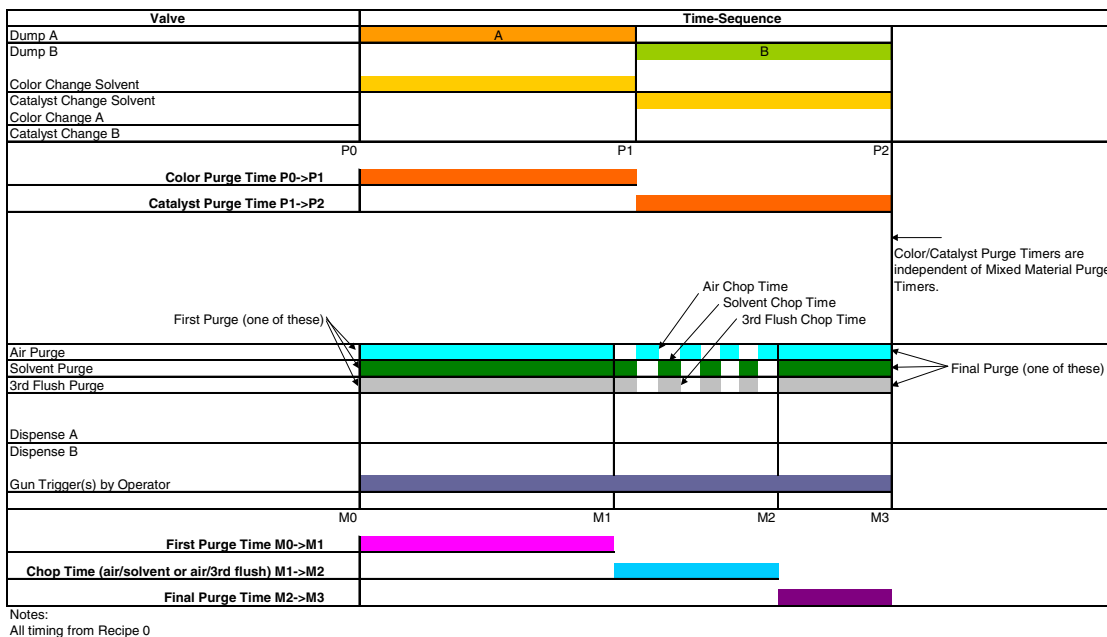
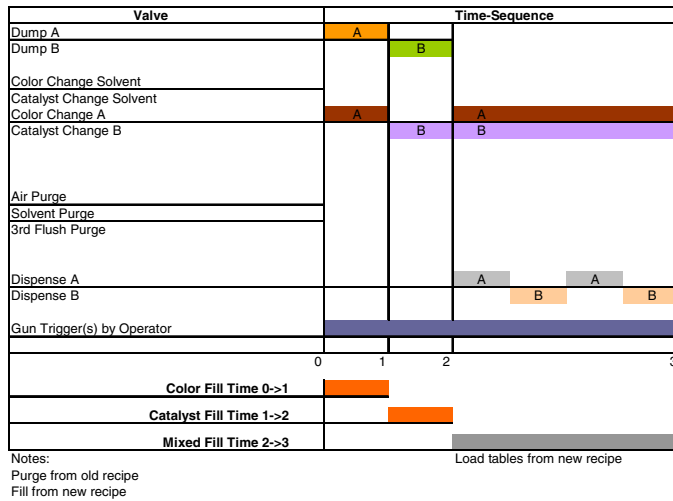

FIG. 118: Color Change Chart 10
FIG. 119: Color Change Chart 11
| X | 0 | Yes | Yes | Yes | No | 0, 1, or 2 | FIG. 118* |
| X | 0 | Yes | No | Yes | No | 0, 1, or 2 | FIG. 118* |
| X | 0 | No | Yes | Yes | No | 0, 1, or 2 | FIG. 118* |
| 0 or 61 | X | Yes | Yes | Yes | No | 0, 1, or 2 | FIG. 119* |
| 0 or 61 | X | Yes | No | Yes | No | 0, 1, or 2 | FIG. 119* |
| 0 or 61 | X | No | Yes | Yes | No | 0, 1, or 2 | FIG. 119* |
| 0 | 0 | Yes | Yes | Yes | No | 0, 1, or 2 | FIG. 118* |
| 0 | 0 | Yes | No | Yes | No | 0, 1, or 2 | FIG. 118* |
| 0 | 0 | No | Yes | Yes | No | 0, 1, or 2 | FIG. 118* |
| 61 | 0 | Yes or No | Yes or No | Yes or No | No | 0, 1, or 2 | FIG. 118* |
* FIG. 118 and FIG. 119 show both color and catalyst change. If the color or catalyst is not changing, disregard that portion of the chart.